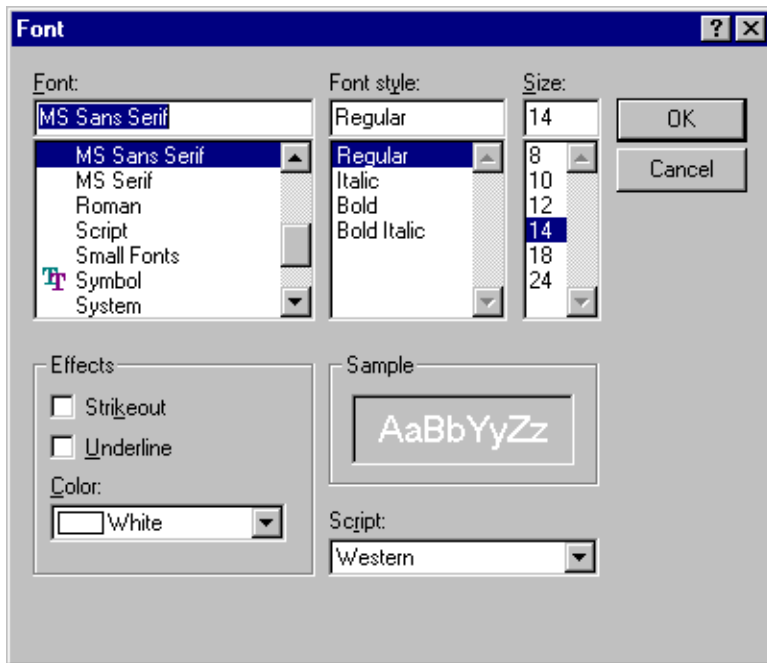

Figure 144. Font dialog box
1. Choose **View | Font** and the Font dialog box appears (Figure 144).